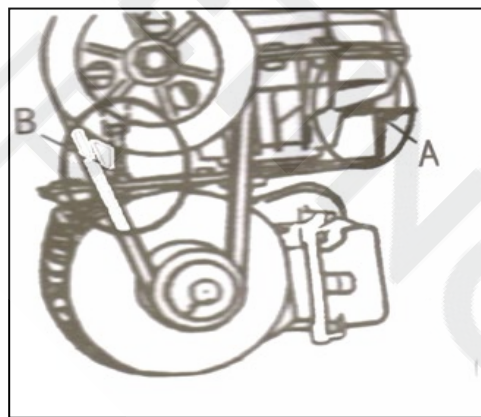

FIG41
- Periodically check and adjust the tension force of the transmission belt and properly adjust the adjustable nuts at the A and B position to adjust the tension of the belt. (Fig41)